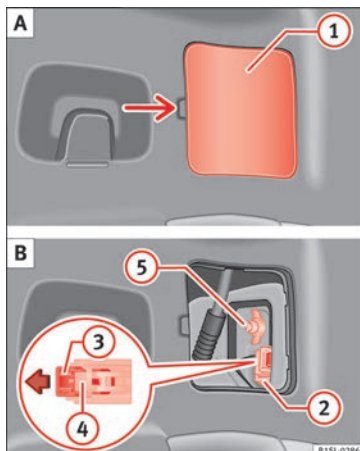

Fig. 88 On the side of the luggage compartment: A: Remove the cover, B: Removing the tail light units
2. Carefully remove the cover **1** towards the lever **»» Fig. 88 A**.
3. Pull the release **3** in the connector **2** in the direction of the arrow **»» Fig. 88 B**. Use the screwdriver in the vehicle tool kit.
4. Press position **4** and remove the connector **2** **»» Fig. 88 B**.
5. Unscrew the wing nut **⑤** » **Fig. 88 B.**
12. Support the tail light with one hand in the assembly position and securely screw the wing nut with the other **⑤** » **Fig. 88 B.**
14. Insert the connector **②** into the bulb holder and press the lock **③** on the connector in the opposite direction to the arrow » **Fig. 88 B.**